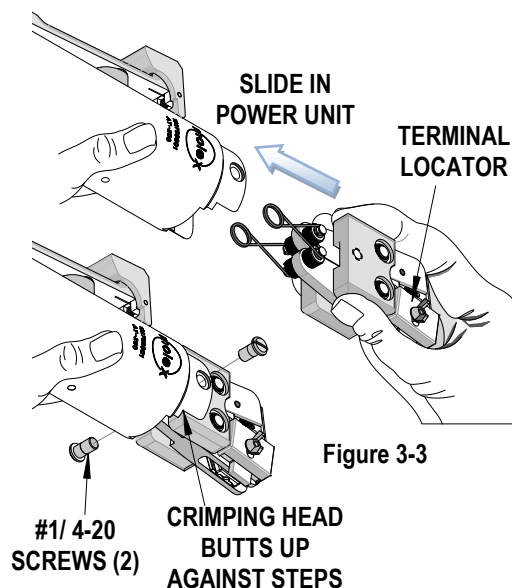

Figure 3-3
4. To replace the crimp tool head, hold power unit in left hand as shown in Figure 3-3.
5. Grasp the crimp tool head with the right hand and with the terminal locator facing you. Slide the crimp tool head assembly into the body of the power unit until the side plates of the crimp tool head butt against the steps in the power unit. Be sure the jaw return springs clear the cam in the power unit. See Figure 3-3.
7. Replace the (2) #1/4-20 screws and tighten securely. The tool is now ready for use.